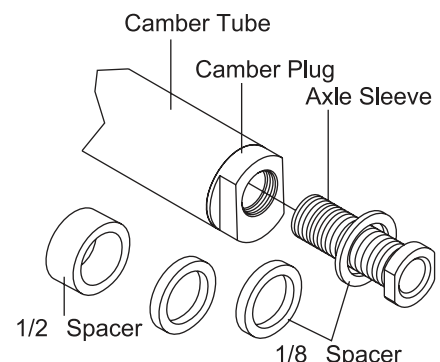

Figure 106
1. Place the 7/8" open-end wrench onto the camber plug and use the 3/4" open-end wrench to remove the axle sleeve. See Figure 106.